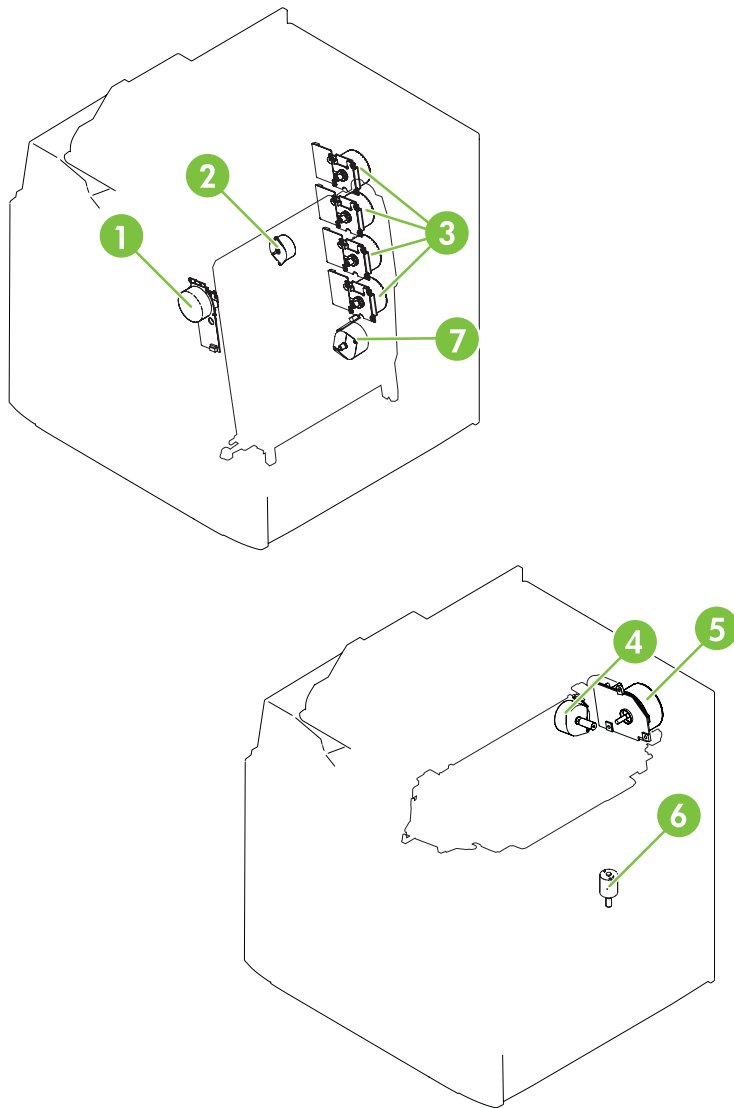

Figure 6-8 Motors
M1 - Yellow (Y) drum motor	See Figure 6-8 Motors on page 642 .
M2 - Cyan (C) drum motor	See Figure 6-8 Motors on page 642 .
M3 - Magenta (M) drum motor	See Figure 6-8 Motors on page 642 .
M4 - Black (K) drum motor	See Figure 6-8 Motors on page 642 .
M5 - Fuser motor	See Figure 6-8 Motors on page 642 .
M6 - Fuser pressure release motor	See Figure 6-8 Motors on page 642 .
M7 - ETB motor	See Figure 6-8 Motors on page 642 .
M8 - Developing disengaging motor	See Figure 6-8 Motors on page 642 .
M9 - Pickup motor	See Figure 6-8 Motors on page 642 .
M10 -Lifter motor	See Figure 6-8 Motors on page 642 .
M8001 - Reversing motor	See Figure 6-8 Motors on page 642 .